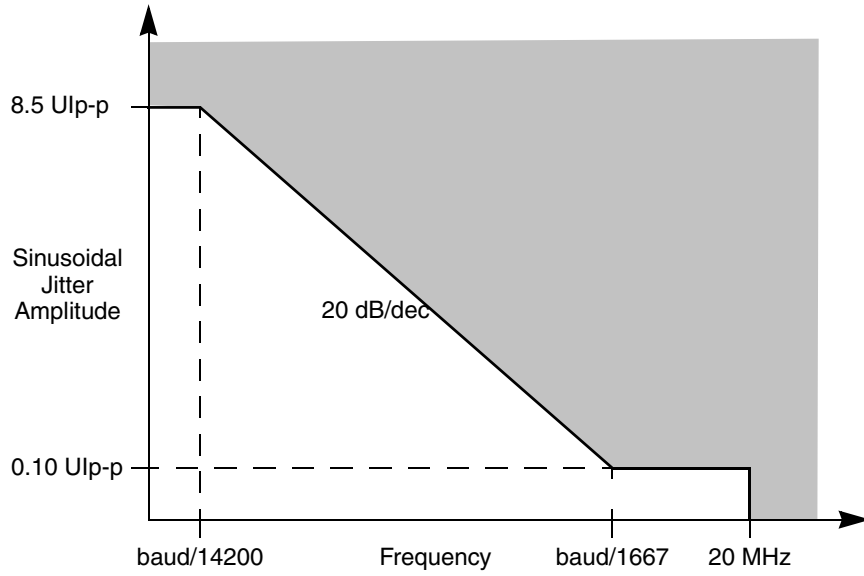
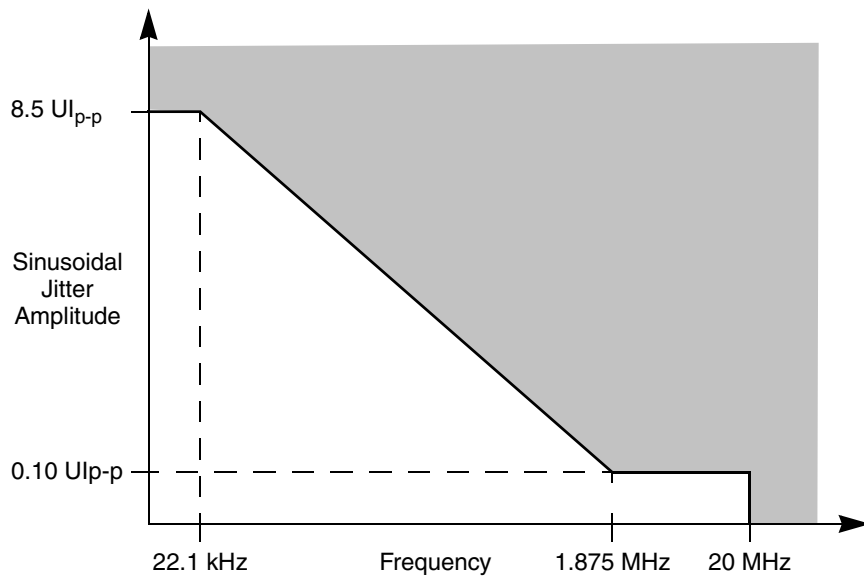

Figure 44. Single Frequency Sinusoidal Jitter Limits for Baud Rate <3.125 Gbps
Figure 45. Single Frequency Sinusoidal Jitter Limits for Baud Rate 3.125 Gbps
**Note:** The AC specifications do not include REF\_CLK jitter. The sinusoidal jitter in the total jitter tolerance may have any amplitude and frequency in the unshaded region shown in Figure 44 or Figure 45.